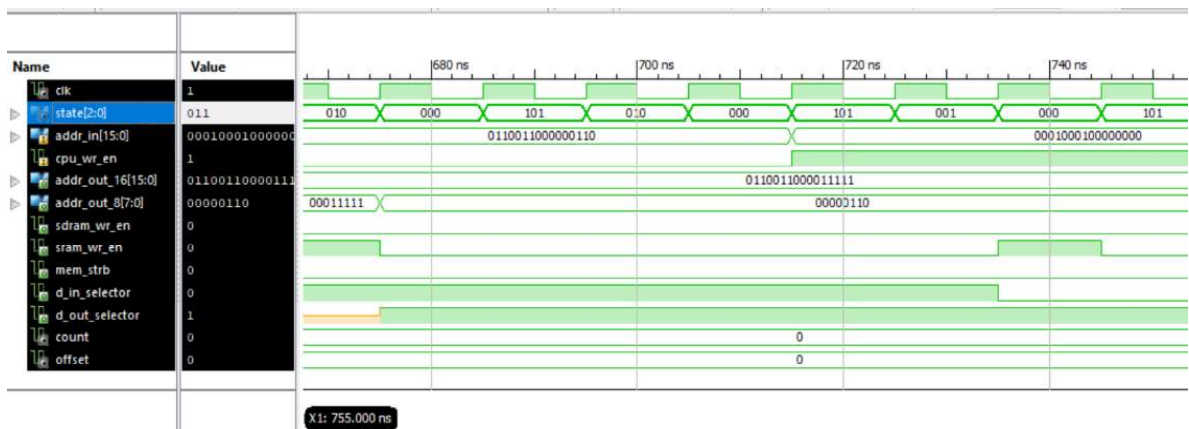

Figure 5.1.3: WRITE instruction
Figure 5.1.3 shows the CPU sending a WRITE instruction for the specified address. The timing diagram shows the state change from IDLE (000) to HIT/MISS CHECK (101) then to the WRITE [HIT] (001) state which takes one clock cycle (10ns) to complete.